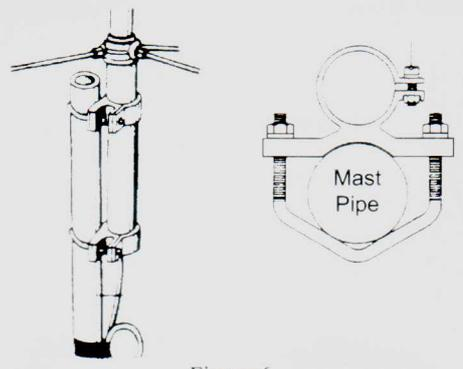

Figure 6
- (8) Attach antenna to antenna mast using brackets and hardware kit (figure 6). We suggest mounting one turn of coaxial cable of approximately 10" diameter directly beneath the antenna. This will act as an isolation choke. The coil diameter is not critical.
- Note: Some cable require a larger diameter coil to prevent movement of center conductor. Tape coil to mast (Figure 6).